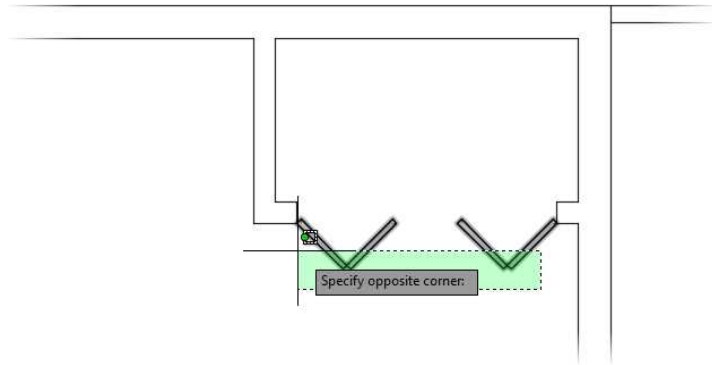

FIGURE 7.15: Selecting the closet door
3. Select the four rectangles that compose the closet door, as shown in Figure 7.15. Do not press ↵ yet.